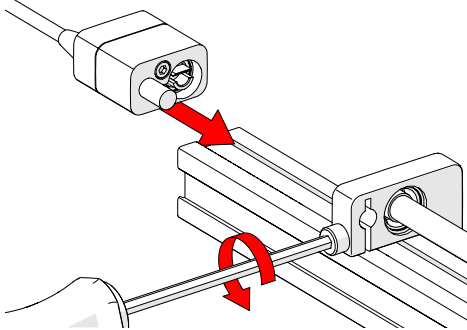

Fig. 56 - Loosen and slide post in place
1. To install the index encoder, loosen the clamp screw on the encoder with the supplied 3 mm hex driver (Fig. 56).